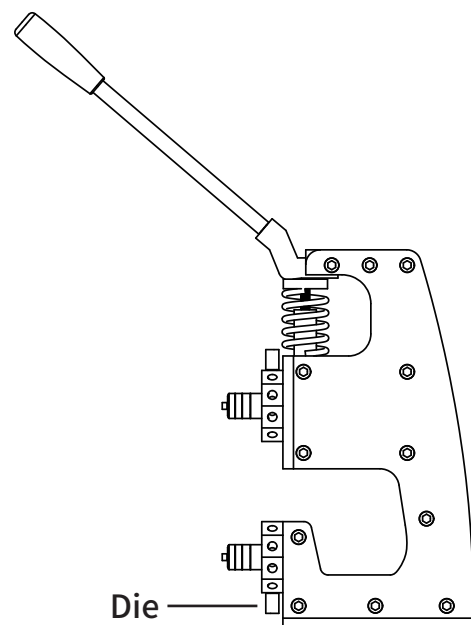

Fig.4
4. Install and secure the die in the same manner as the punch.(Fig. 4).